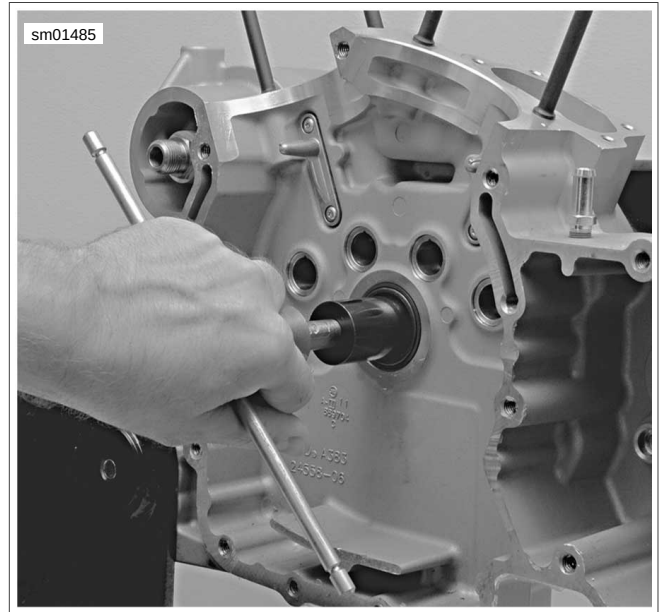

Figure 3-112. Line Reaming Pinion Shaft Bushing
2. See Figure 3-112. Install PINION SHAFT BUSHING REAMER PILOT (Part No. HD-94812-87) into right crankcase roller race. Insert PINION SHAFT BUSHING REAMER (Part No. HD-94812-1) through the pilot.